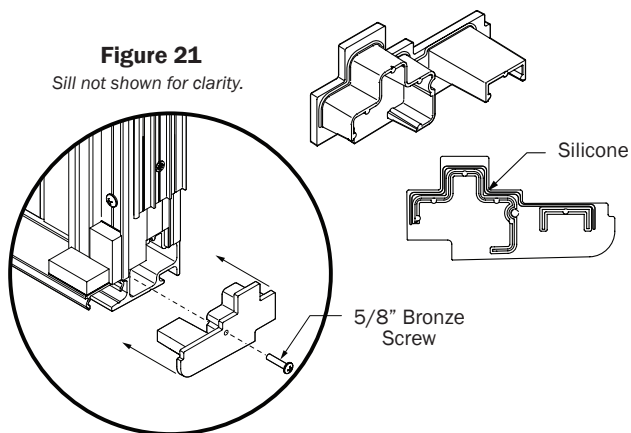

Figure 21
22. Install panel cap at base of stationary panel(s) by first applying 1/16" bead of silicone, as shown, to the cap and fastening into place with the provided #6 x 5/8" Pan Head screw (Fig. 21).